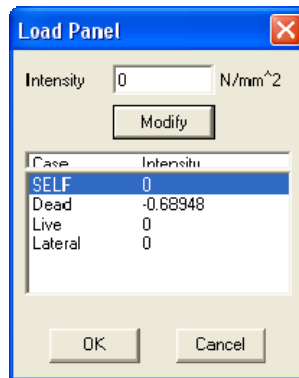

Figure 7-3 Load Panel dialog box
- From the Edit menu, choose Load Panel. The dialog box of Figure 7-3 appears. The list box at the bottom shows all load cases and the panel load for each.